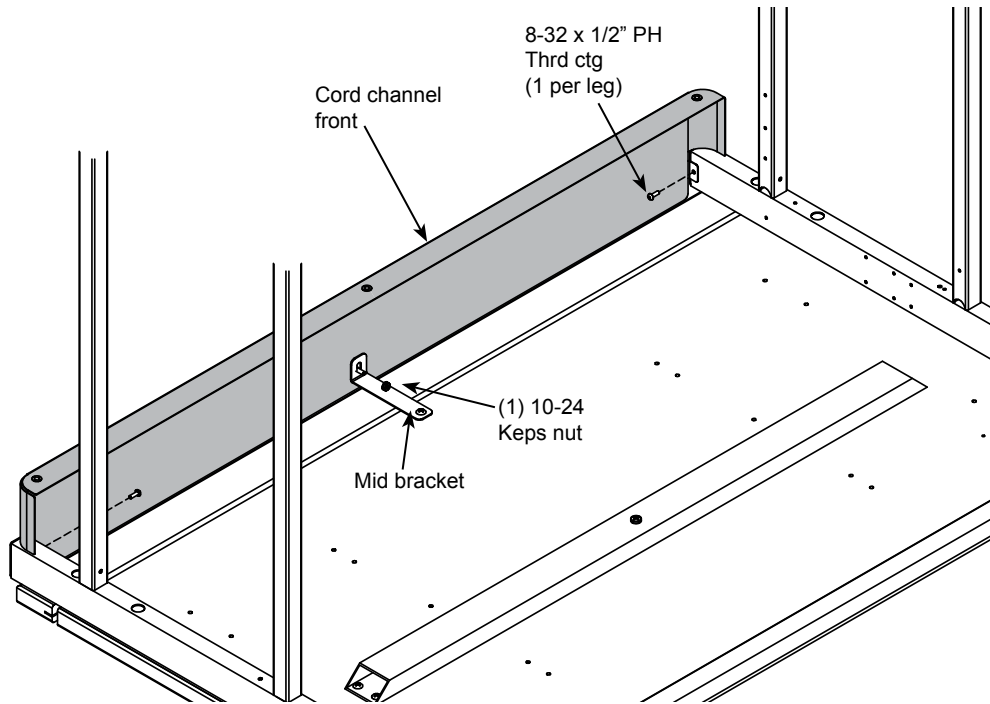

Figure 4.1
1. Align the cord channel front with the leg holes and mid bracket as shown. **Figure 4.1.** Secure with (2) 8-32 x 1/2" PH thread-cutting screws and (1) 10-24 Keps nut at the mid bracket.